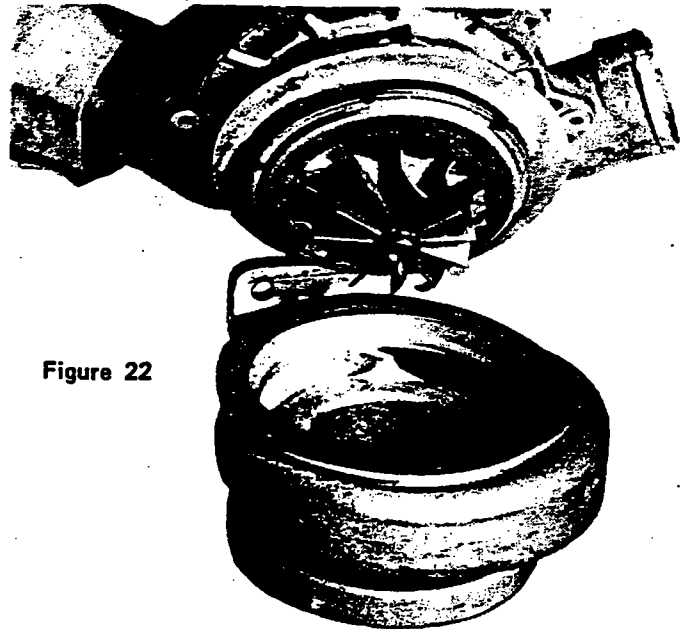

Figure 22
as shown in Fig. 22. Install the turbine housing clamp (2) and tighten the nut (2) to 15 to 20 inch-pounds. Check for freedom of rotation with no indications of interference.